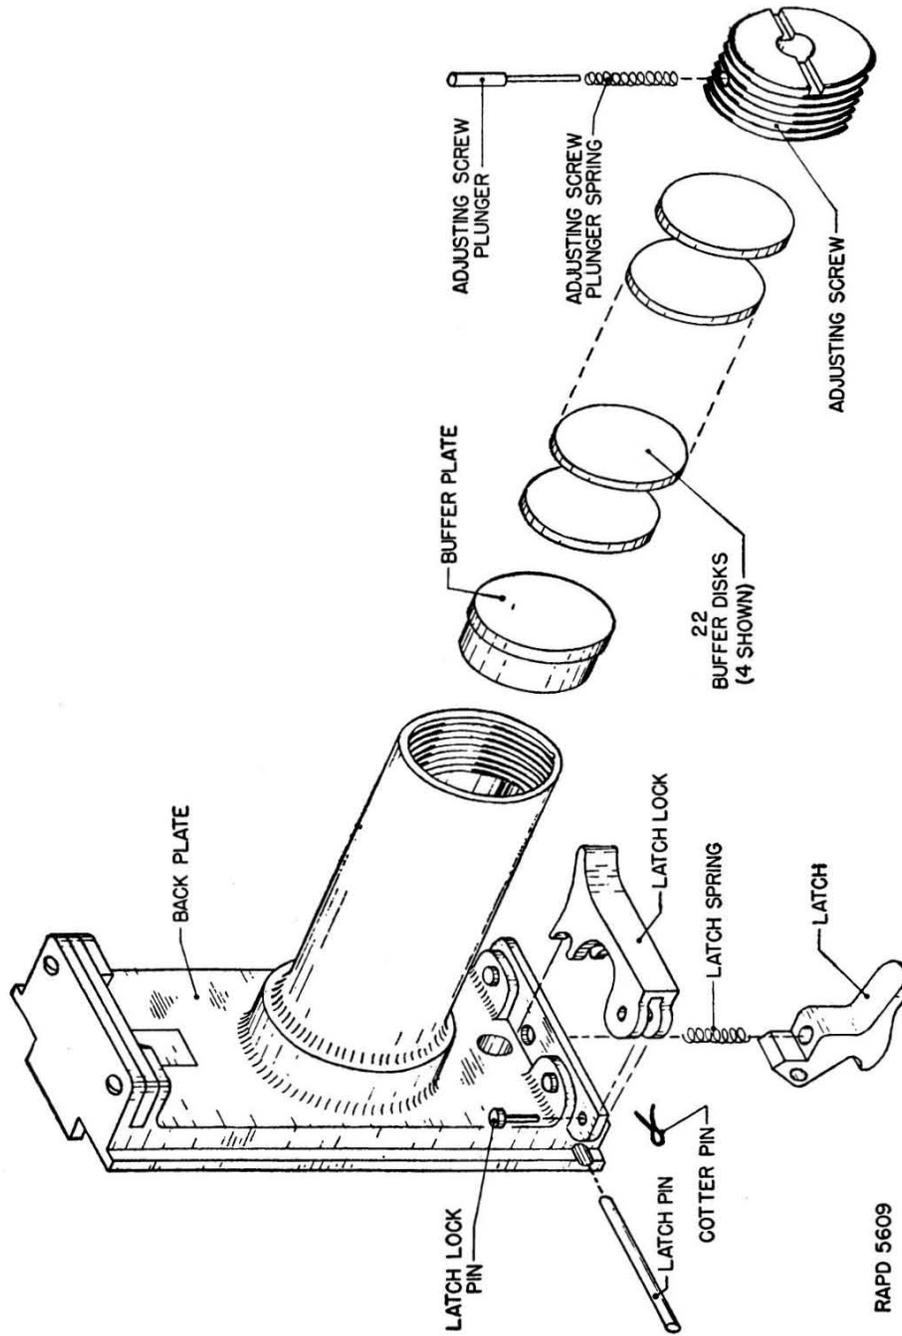

FIGURE 10.—Disassembly of back plate group.
(2) *Horizontal buffer (fixed and flexible type) (fig. 10).*—(a) Drive out back plate latch pin, being careful that back plate latch spring does not fly out upon removal of back plate latch.
(2) *Horizontal buffer (fixed and flexible types)* (fig. 10).—(a) Insert buffer plate and buffer disks in buffer tube. The disks should be clean and free from rough edges and surfaces and should be assembled in the tube one at a time. Make sure each disk is firmly seated.